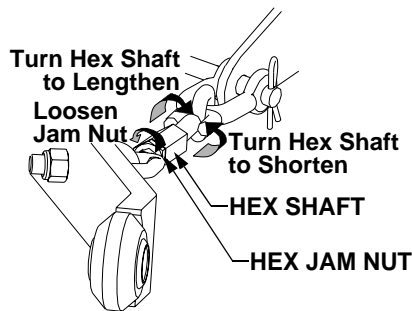

Figure 29
- The length of the hitch chains, attached to each lower hitch link, limit the side-to-side movement of the lower links. Loosen the jam nut and turn the chain's hex shaft as shown in Figure 29 to adjust the length of the hitch chain. Tighten the jam nut after adjusting.